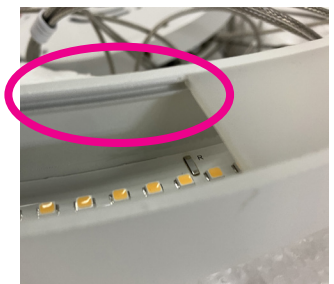

Figure 1
5. Insert/adjust silicone lens. Stretch lens to fit entire circumference; gently press lens in between two grooves on inside of extrusion (See Figure 1). Using a small rubber spatula may be helpful.
6. Adjust the three suspension cables to the appropriate length by either pushing the individual cables up into the adjustable gripper(13) or by pushing the small barrel on the bottom of the gripper(13) upward. This will release the cable tension and allow the suspended cable to increase in length.
7. Secure the canopy cover(11) to the ceiling plate(10) by tightening the three thumbscrews (12).
8. Once the canopy cover(11) is in place, use the adjustable grippers(13) to fine tune the fixture suspension cable lengths so that the fixture is level and the three cables are even in length.